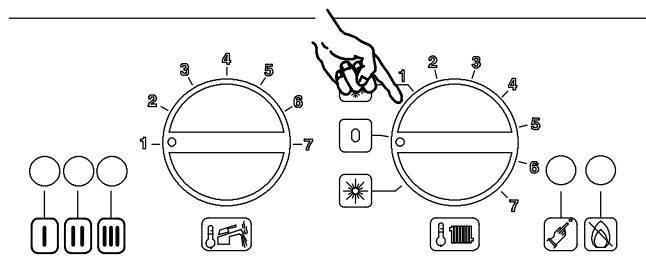

Fig. 61
- 1 Set the function selector of the boiler in stand – by mode (Fig. 61).